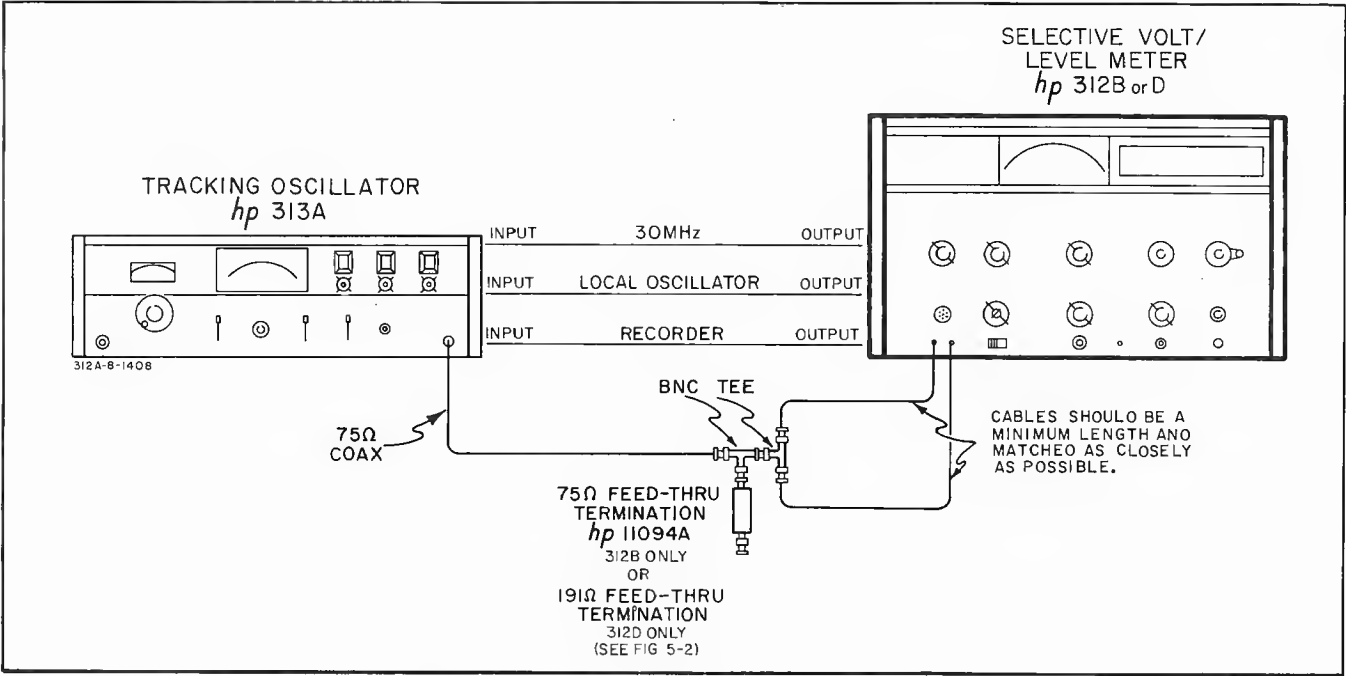

Figure 5-6. Common Mode Rejection – 312B/D.
- a. Connect the 312B/D and 313A as shown in Figure 5-6. On the 312D, use WECO-to-BNC adapters (hp- Part No. 1250-0591) and the 191 ohm feedthru termination shown in Figure 5-2.